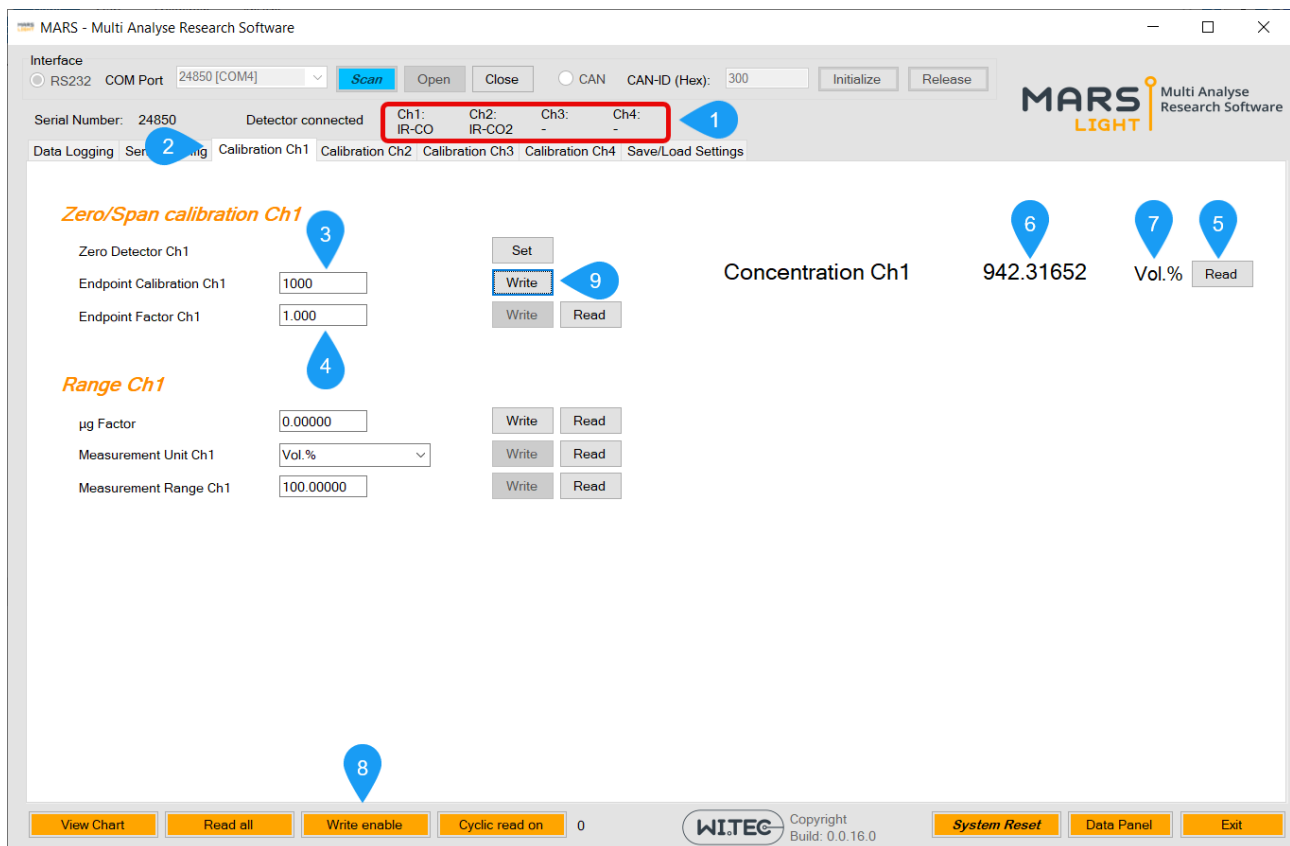

Figure 5: End-point calibration
- (9) When the indicated concentration displayed in item (6) of “Figure 5: End-point calibration” matches the test gas concentration entered in item (3) click “Write” to perform the end-point calibration.